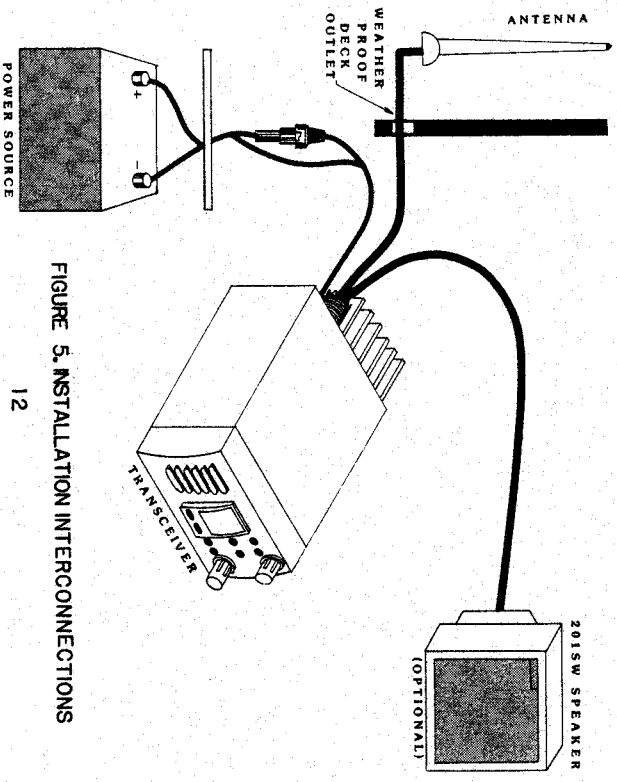

FIGURE 5. INSTALLATION INTERCONNECTIONS
7. At the rear of the transceiver, connect the antenna cable to the antenna jack (see Figure 5). The antenna must have a PL259 connector. RG8 coaxial cable must be used if the antenna is 25 feet or more from the transceiver. RG58 cable can be used for distances less than 25 feet.
8. Connect the red power cord to a +13.8 VDC $\pm 20\%$ power source. Connect the black power cord to negative ground. See Figure 5 for this step.